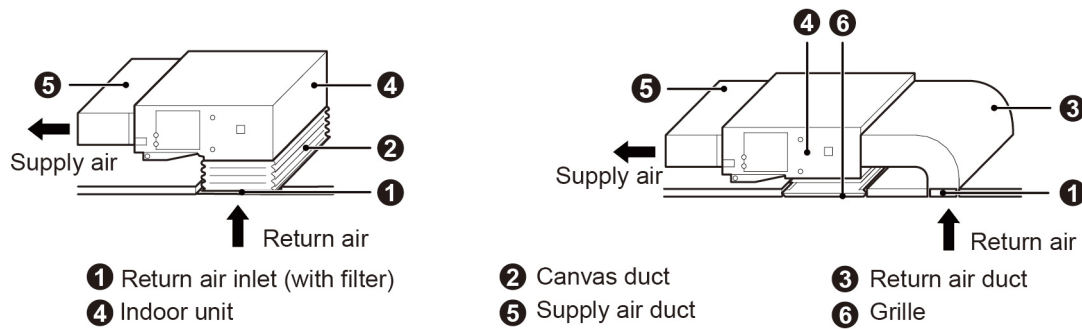

Fig 4.24
- (2) If air return from the bottom is needed, switch the positions of square flange and air-return cover.
- (3) Use a clincher to connect air-return duct to the air-return opening of indoor unit. The other end of air-return duct connects with the air-return louver. In order to adjust the height conveniently, you can make a folded canvas duct and have it strengthened by 8# iron wire.
- (4) Air return from the bottom will produce more noise than air return from the back. So we suggest you to add a noise damper and static pressure case to lower noise if you choose air return from the bottom.
- (5) Select the appropriate installation way based on actual construction and maintenance needs, as shown in Fig 4.24